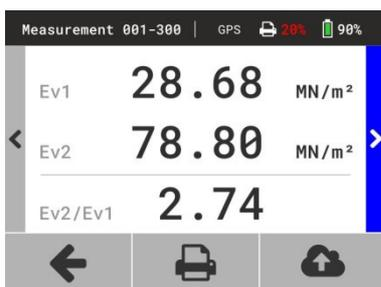

Figure 21
- ⇒ The results of the selected test series are displayed on the screen (Figure 21).